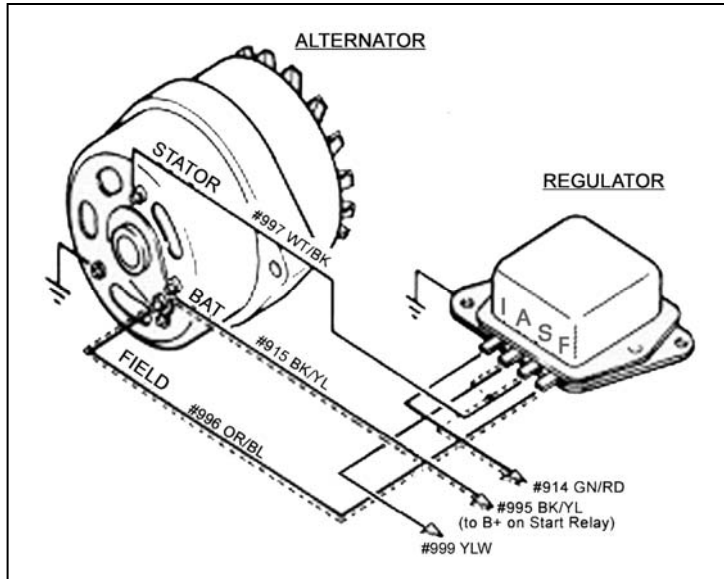

Figure 7-1A Ford Alternator (2 Configurations)
7.1.7 An alternate (and less-used) method is to omit the Alternator Stator wire, install a 14-gauge jumper across Voltage Regulator terminals A & S, and connect wire #914 to either the A or S terminal of the Voltage Regulator. The FIELD wire and wire #915 are connected as above. Do **NOT** connect wire #999 as in Paragraph 7.1.3. Make certain this wire is safely insulated and stowed; it is an **unprotected** battery hot wire. The Voltage Regulator Ignition (I) terminal is not connected. Install ground wires as in Paragraph 7.1.5. This alternate configuration is illustrated in dashed lines in Figure 7-1A.